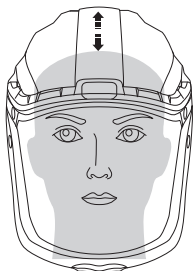

fig.2
- If you feel uncomfortable or unbalanced when wearing the face shield, adjust the front and rear attachment positions of the suspension headband to an appropriate position (See fig.2). The suspension headband can be adjusted at four locations: two in the rear and two in the front. Each location can be adjusted independently for a custom fit.